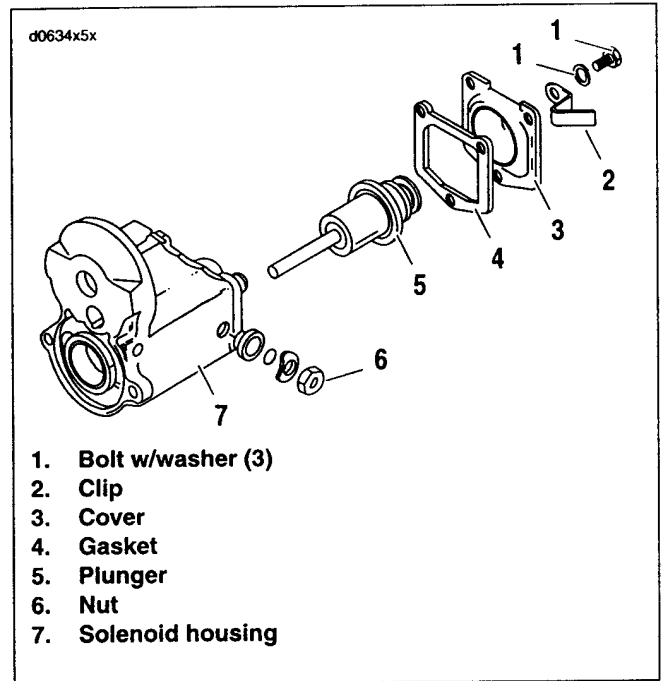

Figure 5-26. Starter Solenoid
See Figure 5-26. Do not tighten nut (6) without removing items 1-5. The contact will move and be destroyed.
1. See Figure 5-26. Remove bolts w/washers (1) and clip (2).
2. Remove cover (3) and gasket (4). Discard gasket.
3. Remove plunger (5) from solenoid housing (7).
1. See Figure 5-26. Replace wire connection hardware as necessary.
2. Apply a light coat of LUBRIPLATE 110 to plunger shaft. Install plunger (5) in solenoid housing (7).
3. Install **new** gasket (4) onto cover (3).
4. Position cover with gasket onto solenoid housing. Install clip (2) and bolts w/washers (1).